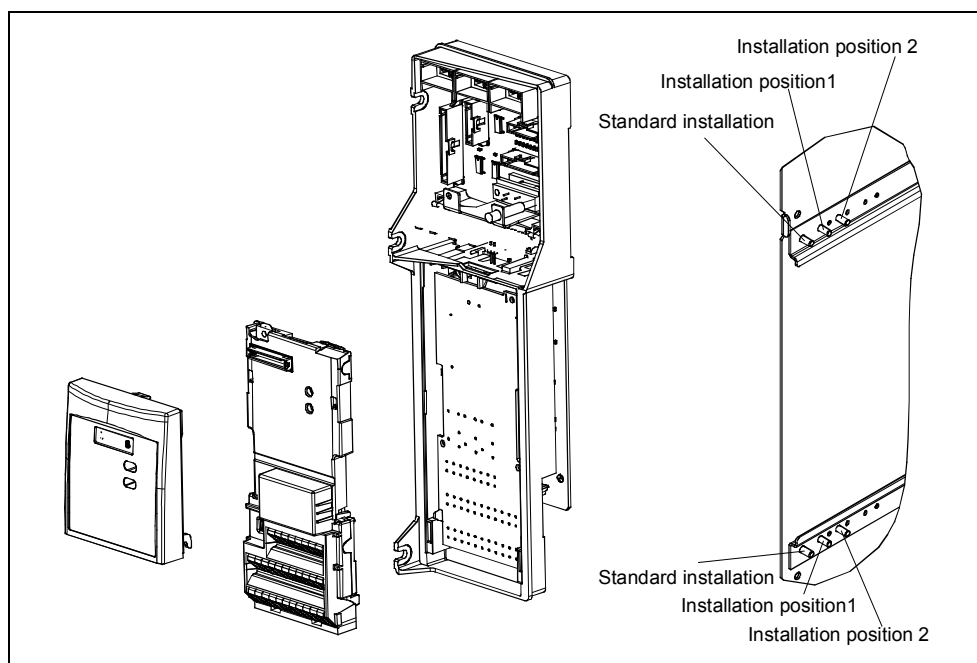

Figure 2-5 Options for the electronic box
- Screw on electronic box in correct installation position as shown in Figure 2-5